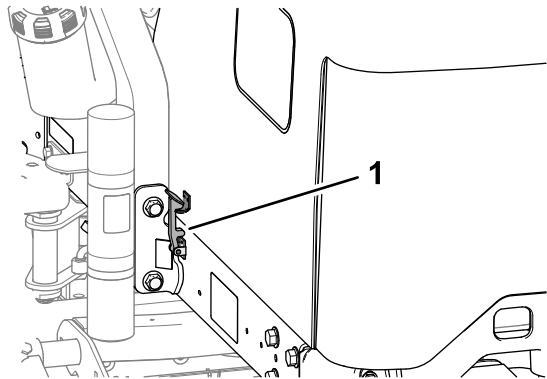

Figure 58
2. Rotate the hood up and back (Figure 58).